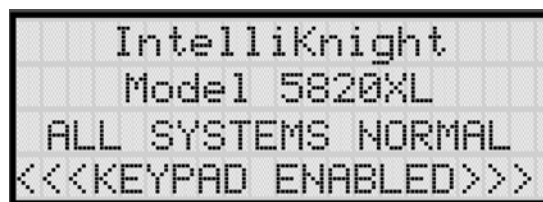

Figure 6-7 Keypad Enabled Screen
2. The display prompts you to press the ► or  key to bring up the Main Menu (see Figure 6-7).